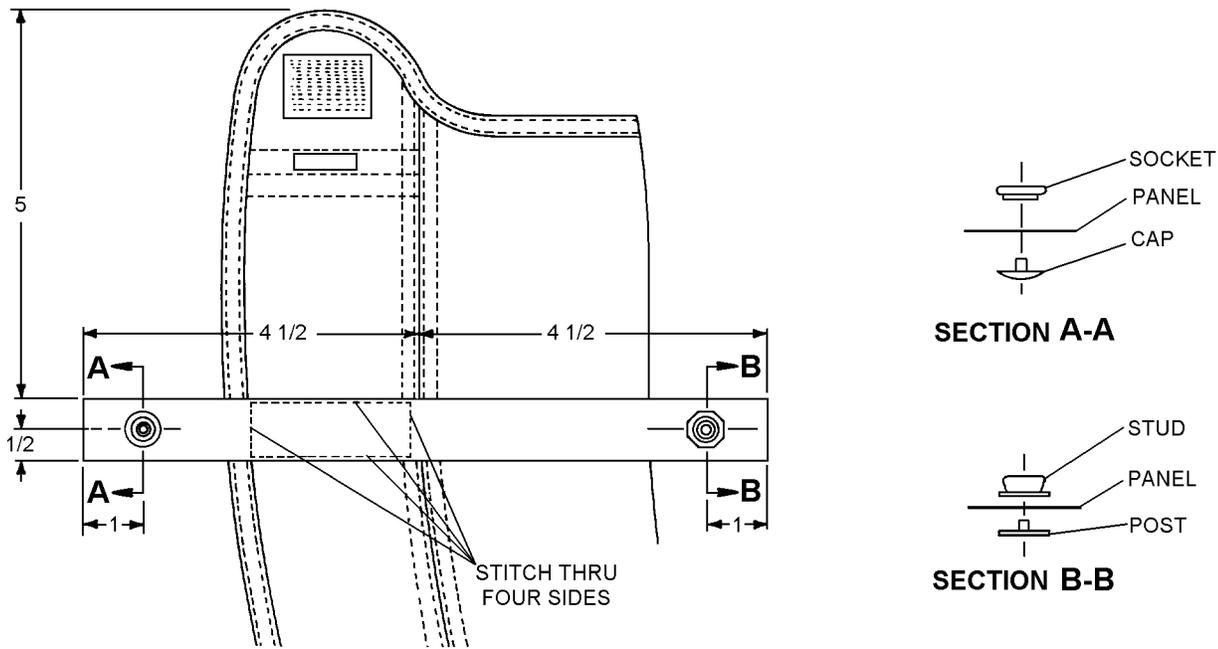

Figure 17-9. Addition of Webbing Loops
- 2. Sew one piece of webbing to outer side of each collar lobe casing in accordance with dimensions shown in figure 17-9.
- 3. Position and install snap fasteners in accordance with dimensions shown in figure 17-9, and ensure proper mate.